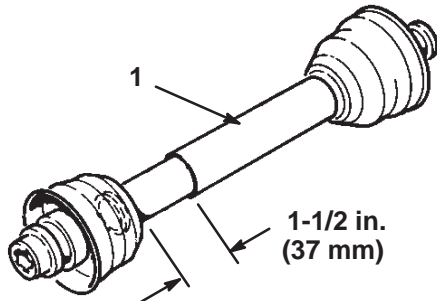

Figure 6
- At its shortest length, the two halves of the PTO shaft must have at least 1-1/2 inches (37 mm) of additional clearance to collapse (Fig. 6). If the dimension in step 2 is not at least 1-1/2 inches (37 mm) greater than the dimension in step 3, the PTO shaft is too long; proceed to step 5. If there is enough clearance to allow the PTO shaft to collapse, proceed to step 10.